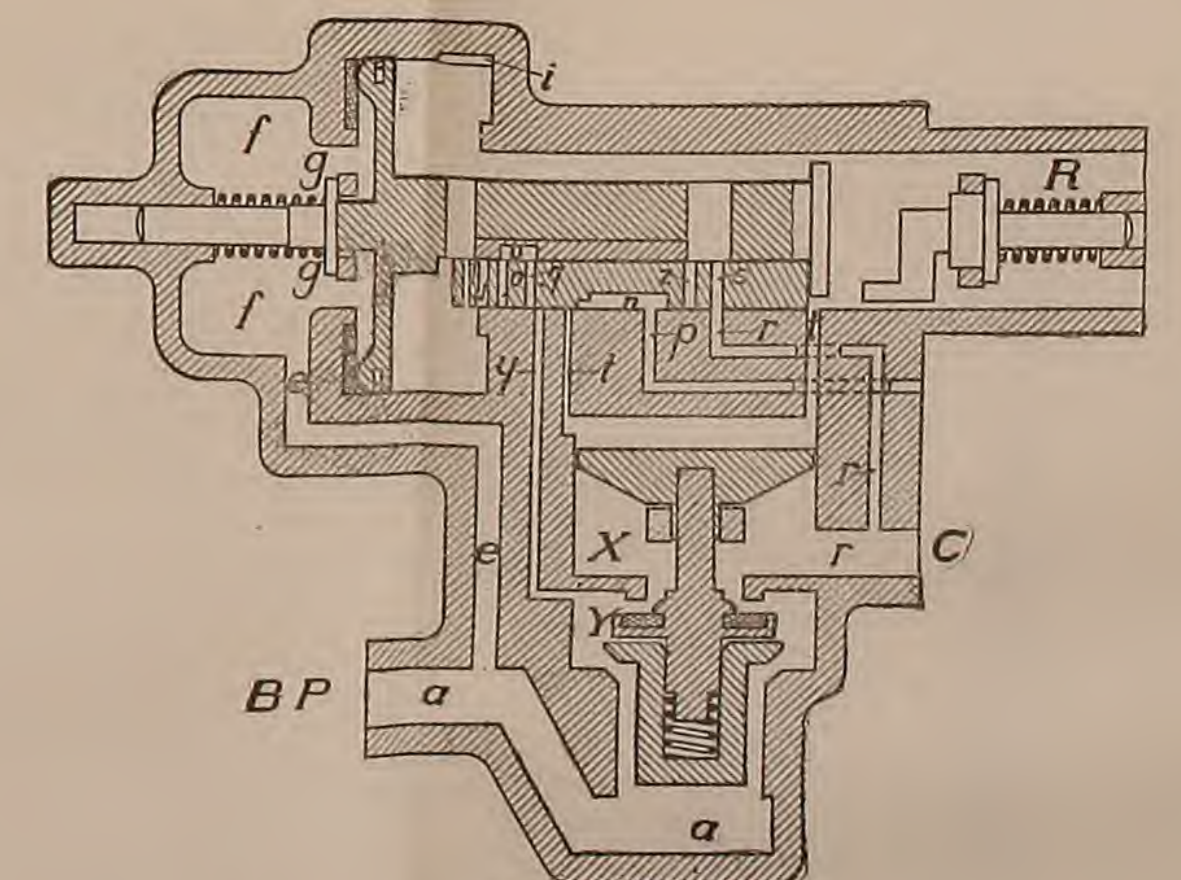

Fig. 128.
Q. What does Fig. 128 represent?